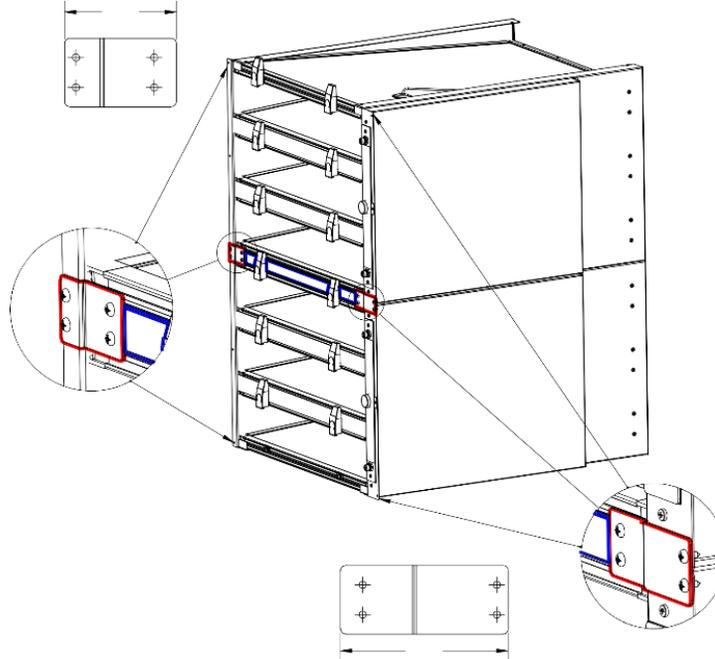

Figure 1
1. Check that all units are sealed to prevent bypass including the area surrounding the Dynamic V8 modules as well as the horizontal joint between the individual modules (12" or 18" in height). Blue extruded rails and brackets are shipped with each system to seal between the modules (figure 1).